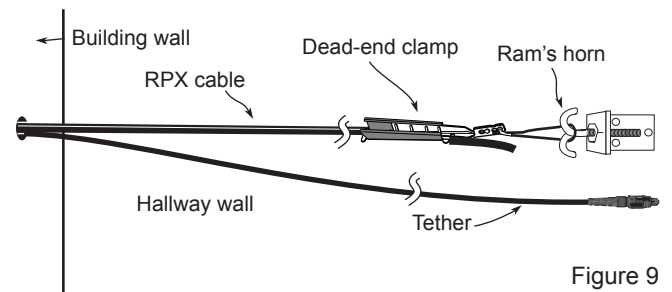

Figure 9
5.12 Secure the RPX cable to the hallway wall using a ram's horn/eye bolt and dead-end clamp (Figure 9).